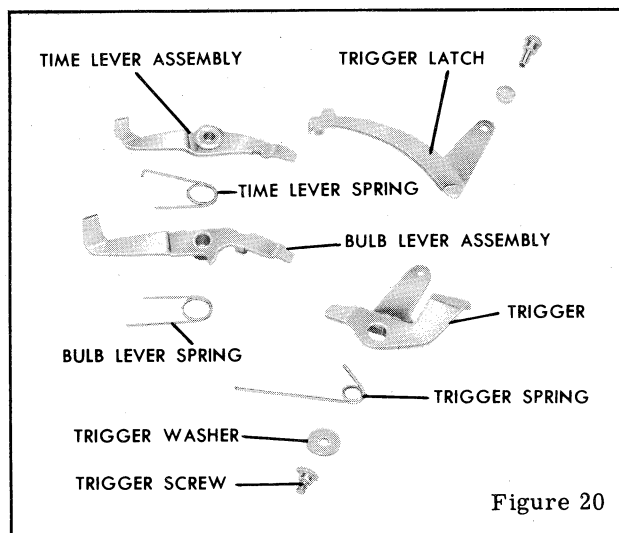

Figure 20
| Shutter does not trip easily | Possible burr on TRIGGER, figure 20. | Burnish the trigger at the point where it contacts the MAIN DRIVE ASSEMBLY, figure 7, when in a set position. |
| No Kodatron contact | BLADE CONTROLLER CONTACT STUD, figure 20, is not touching the CONTACT SPRING, figure 21. | Adjust the contact spring so that it touches the contact stud on the blade controller when the blades are almost fully opened. It is possible to make the adjustment after removing the front lens mount. There must be no contact when the blades are held open with the blade arrestor. |
| Shutter does not set | The TRIGGER LATCH, figure 20, is not returning to its proper position after the shutter has been released. | The trigger latch is bent and binding on the speed index plate or cover. It may be necessary to reduce the tension on the TRIGGER LATCH SPRING, figure 19. |
1. Speed control ring, with shutter in tripped position. Be sure the projecting lug on the BULB LEVER ASSEMBLY, figure 20, the studs on the retarding SECTOR WITH STUD, figure 6, and the PALLET BRACKET with stud assembly are resting against the inside edge of the speed control ring and are not underneath the ring.
CAUTION: Do not touch the TRIGGER LATCH, figure 20, as it may release the winding gear spring tension.
Trip the shutter and lightly hold the winding lever down around the central collar on the cover. As the shutter is tripped, the end of the latch should fall into the slot on the cover. If it does not, add more tension on the TRIGGER LATCH SPRING, figure 19. Check for a bind between the trigger latch and the TRIGGER, figure 20, at the point of attachment. The winding lever should contact the trigger latch; push the latch out of the slot in the cover and open the shutter blades. After the shutter has been tripped, the latch should return to a position where it is resting on the ledge just above the small slot in the cover.
4. Lift up the loose end of the TRIGGER LATCH, figure 20, sufficiently to clear the COVER COMPLETE, figure 19. Move the end of the latch until it is clear of the CASE, figure 18.
5. TRIGGER SCREW, figure 20, TRIGGER SPRING, and TRIGGER WASHER.